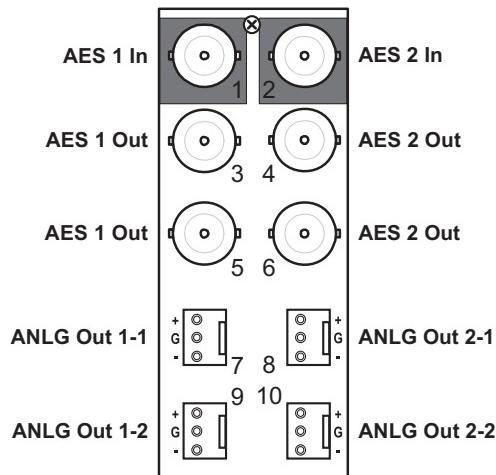

Figure 2.1 Cable Connections for the 8310AR-036 and 8320AR-036 Rear Modules
- **8310AR-036** Rear Module — Each module occupies one slot and accommodates one card. This rear module provides two AES inputs, four AES outputs, and two stereo pair outputs. (**Figure 2.1**)
- **8320AR-036** Full Rear Module — Each module occupies two slots and accommodates one card. This rear module provides two AES inputs, four AES outputs, and two stereo pair outputs. (**Figure 2.1**)